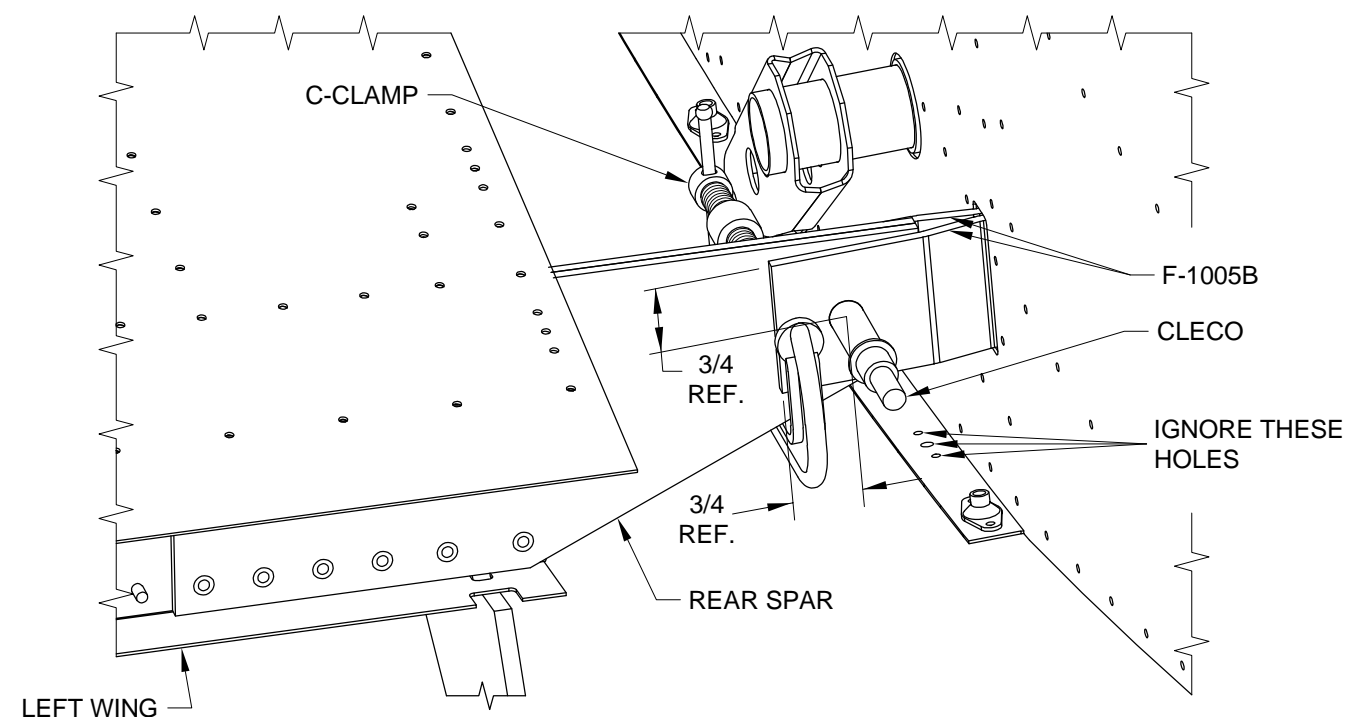

FIGURE 2: MATCH-DRILL REAR SPAR AND REAR SPAR ATTACH BARS
Step 2: Cleco together the rear spar and F-1005B Rear Spar Attach Bars as shown in Figure 2. Clamp them in place. Remove the cleco and carefully pilot-drill to 3/16, 1/4, 5/16 and finally 3/8.